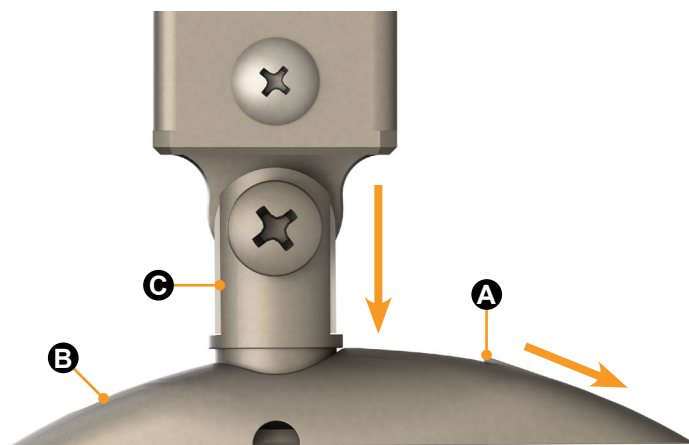

Fig.12
4. Slide and hold the locking button down, then insert the swivel barrel. See figure 12.